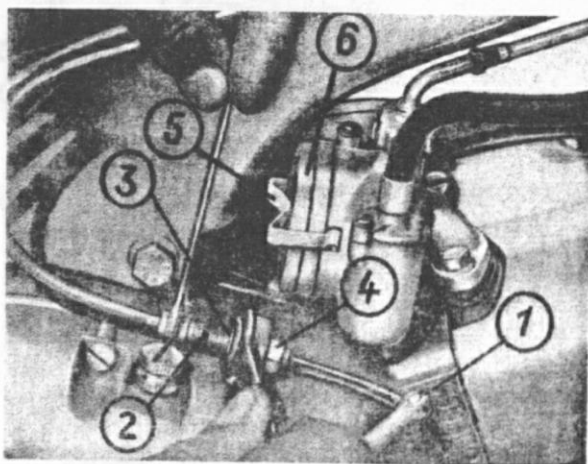

Fig. 25: Clutch adjustment
1. Remove clamp spring (Fig. 25/3).
2. Take out filter inset (Fig. 25/6).
The clutch release lever (Fig. 25, No. 1) attached to the crankcase cover must have a play of 2—3 mm (0.08—0.12 in.) measured on the outside.
1. Hold clutch cable adjusting sleeve (Fig. 25, No. 2) at the eye of the crankcase cover. If the clutch has excessive play, proceed as follows (2a—4a):
- 2a) Loosen forward check nut (Fig. 25, No. 3) by a few turns.
- 3a) Turn rear check nut (Fig. 25) in the same direction until play is correct.
- 2b) Loosen rear check nut (Fig. 25, No. 4) by a few turns.
- 3b) Turn forward check nut (Fig. 25, No. 3) in the same direction until play is correct.